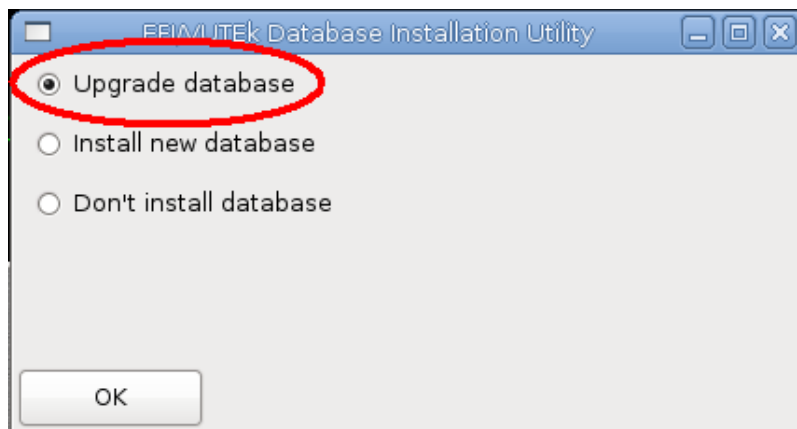

Figure 39: Database Dialog
6. Upgrade process will ask user for confirmation to perform update, then begin upgrading system software. During this process, user is prompted to specify how database should be updated, shown in **Figure 39**. In almost all cases, user should select **Upgrade Database**.